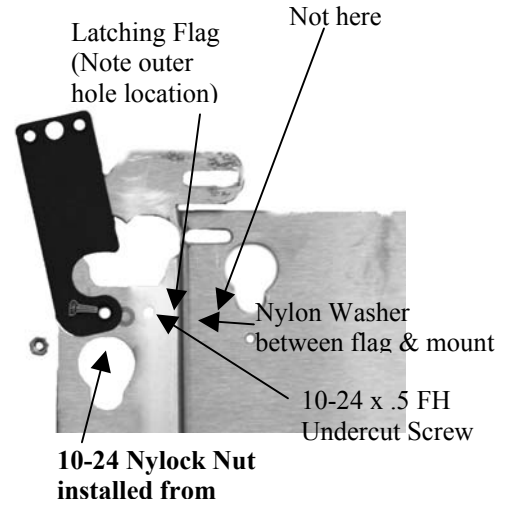

Figure 7
2. Secure latching flag to Plasma Static Mount using .250" OD x .1875" ID x .0312" Nylon washer, 10-24 x .5 FH undercut screw, and 10-24 Nylock nut (see Figure 7).